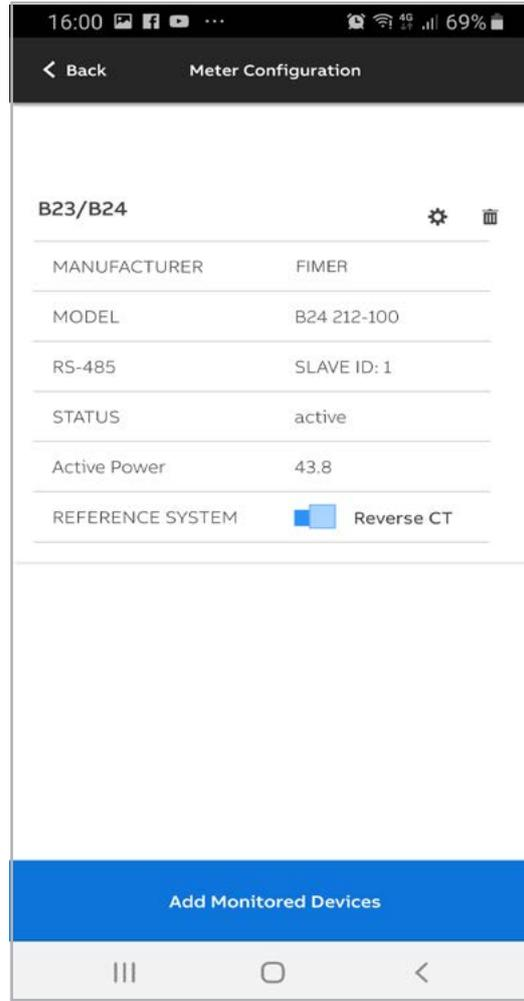

Figure 18 - Editing of energy meter settings
- Figure 18 - Editing of energy meter settings